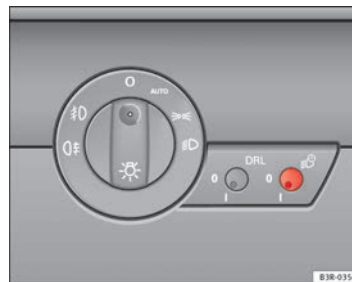

Fig. 84 Detailed view of the dash panel: Coming home and leaving home functions
- Briefly press the knob ⇒ Fig. 84 to release it from its set position.